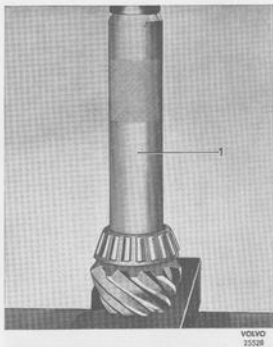
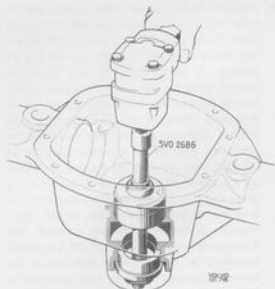

Fig. 4-173. Fitting rear pinion bearing
Fig. 4-174. Fitting bearing races
4. Press the rear bearing on the pinion with sleeve 2395, see Fig. 4-173. NOTE: The washer under the rear bearing inner ring on a Volvo final drive must not be fitted when reconditioning. Place on the measured shims and press in both the outer rings of the bearings with tool 2686, see Fig. 4-174.